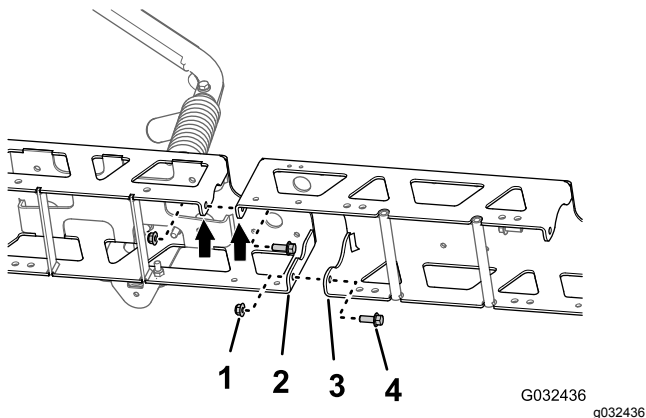

Figure 117
- Align the holes in vertical flanges of the middle center-section truss frame with the holes in the outer center-section truss frame (Figure 117).
- Loosely assemble the center-boom extension to the truss frame (Figure 117) with the 2 flange-head bolts (3/8 x 1 inch) and 2 flange locknuts (3/8 inch).
- Align the holes in vertical flanges of the middle center-section truss frame with the holes in the other outer center-section truss frame (Figure 117).
- Loosely assemble the center-boom extension to the other truss frame (Figure 117) with the 2 flange-head bolts (3/8 x 1 inch) and 2 flange locknuts (3/8 inch).